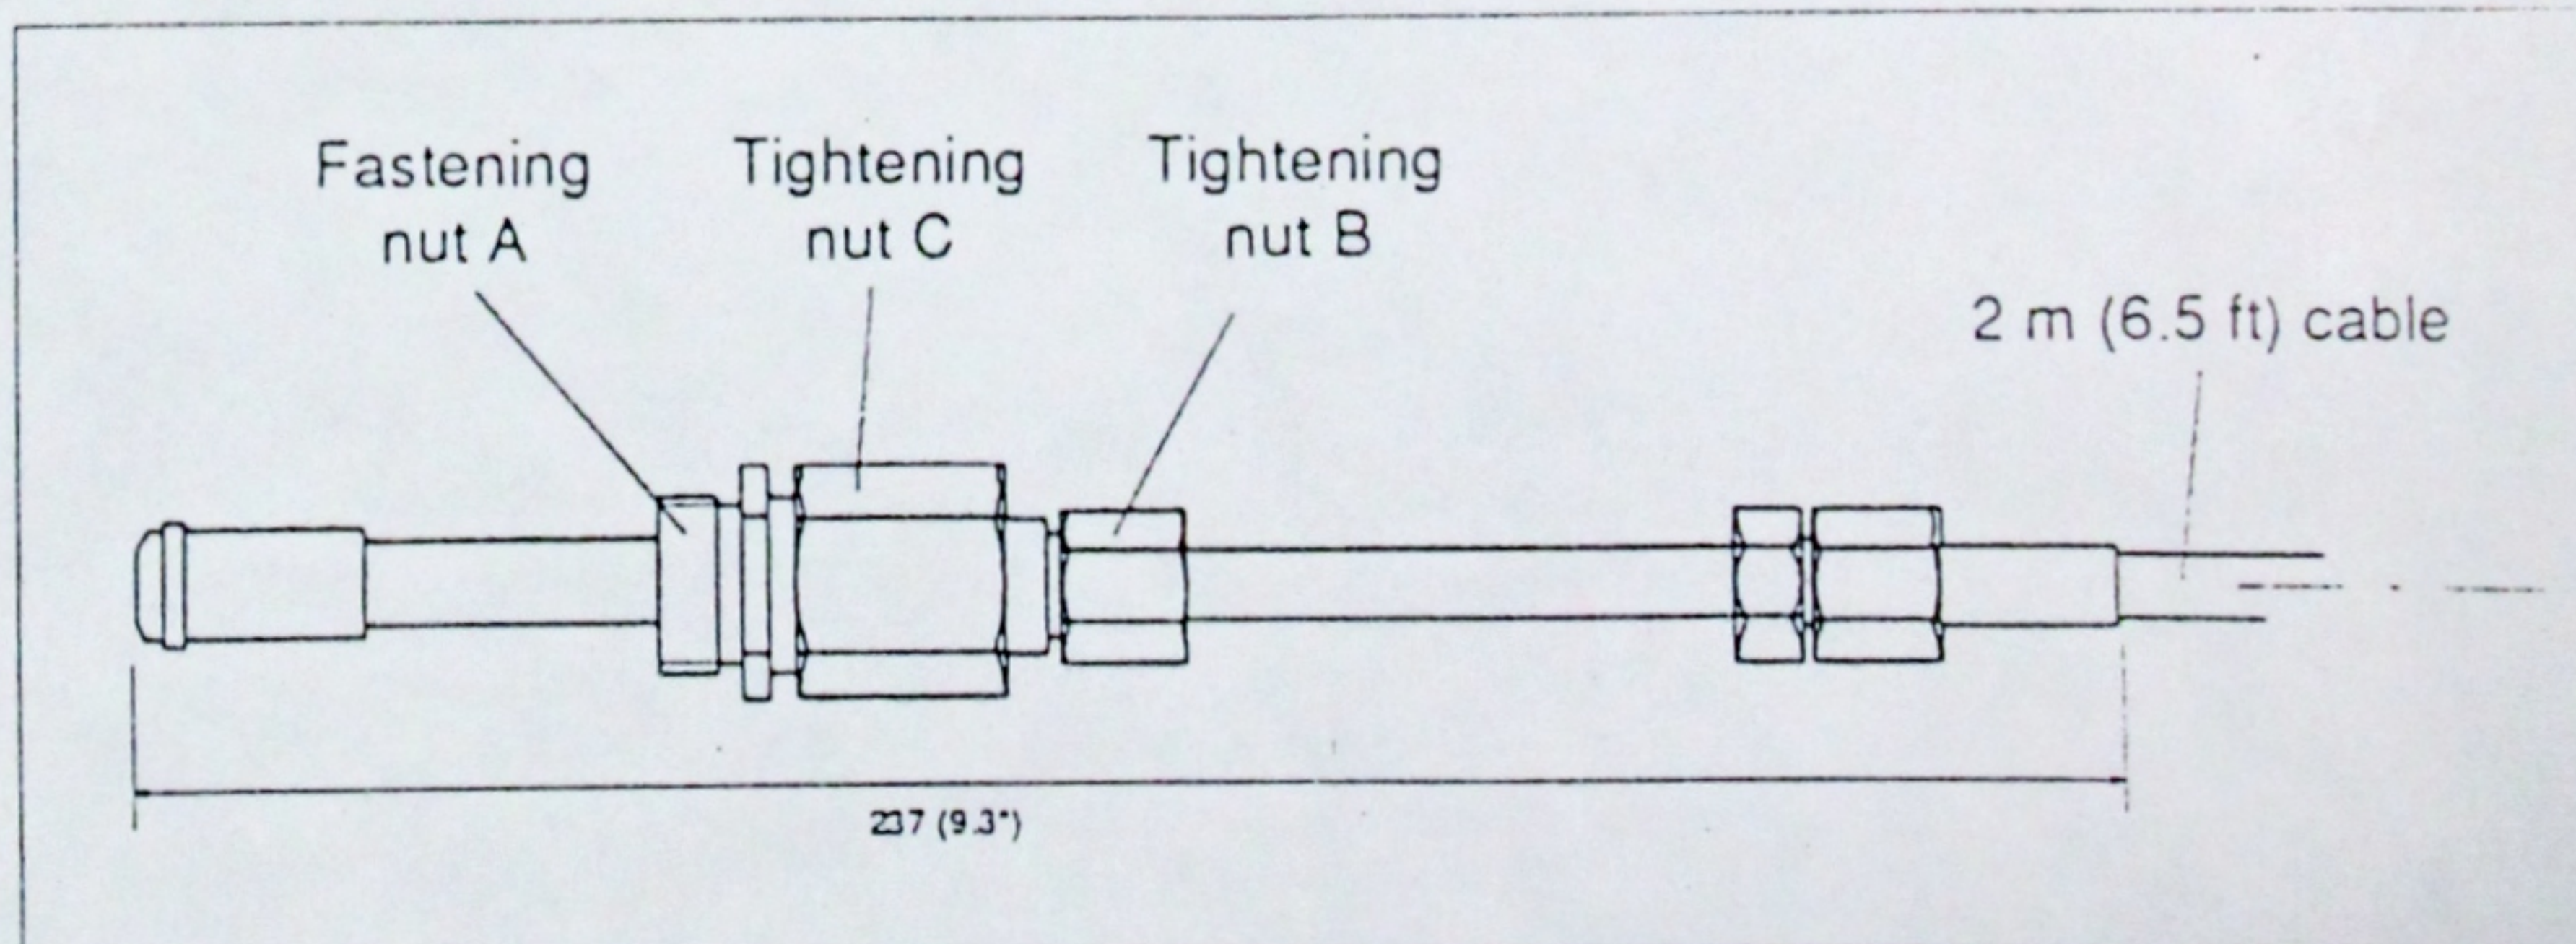

Fig. 2. RPT-122 external dimensions
2. Screw the nut A (see fig. 2) in to the ball valve.